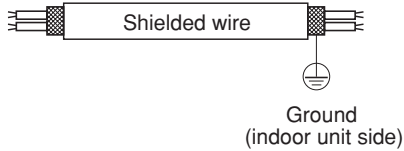

Fig. 6-3
- Use shielded wires for remote control wiring and ground the shield on the indoor unit side. (Fig. 6-3) Otherwise misoperation due to electrical noise may occur.